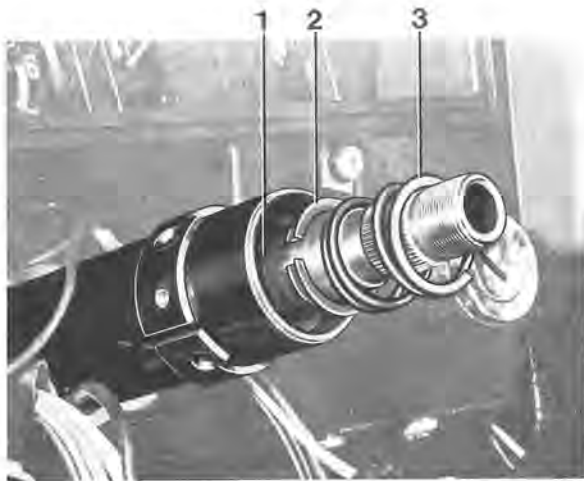

Fig. 6-47. Replacing upper bearing
4. Pull out the spring and seat, see Fig. 6-47.